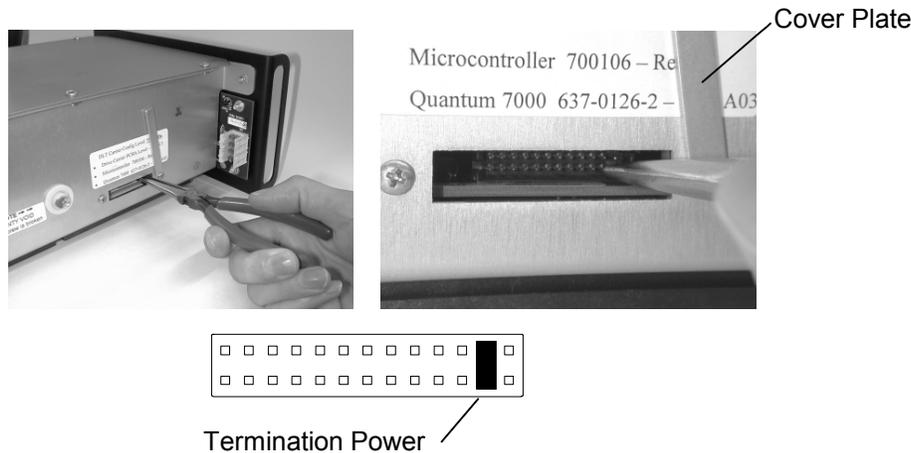

Figure 5-37 Quantum DLT Termination Power Jumper
3. Remove one screw from the cover plate on the right side of the Tape Drive Assembly. Loosen the other screw and swing the cover up and out of the way as shown in Figure 5-37. Tighten the screw.